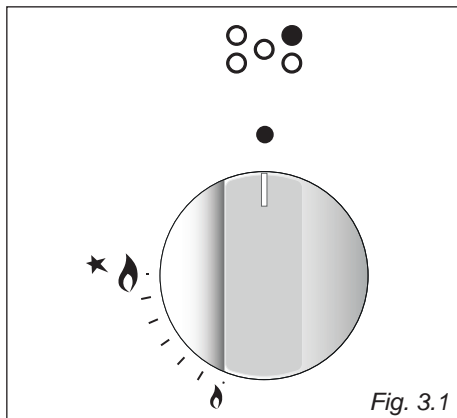
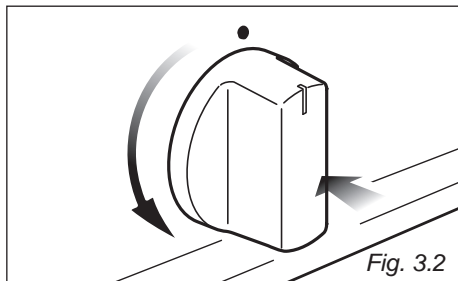

Fig. 3.1
Fig. 3.2
- Remove the screw securing the cover "A" on the rear of the cooker (fig. 3.2).
Gas flow to the burners is adjusted by turning the knobs (illustrated in fig. 3.1) which control the safety valves.
1. Press in the corresponding knob and turn counter-clockwise (fig. 3.2) to the full flame position marked by the  symbol (fig. 3.1); hold the knob in until the flame has been lit.